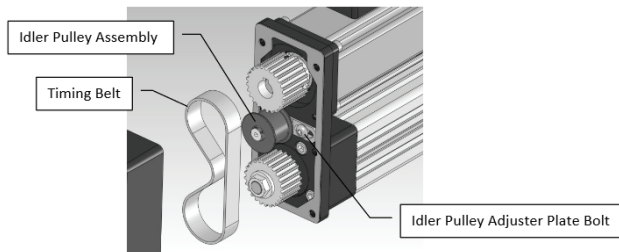

Figure 171
Step 9 – Loosen the idler pulley adjuster plate bolt and slide the idler pulley assembly to the left to remove the belt. See Figure 171.